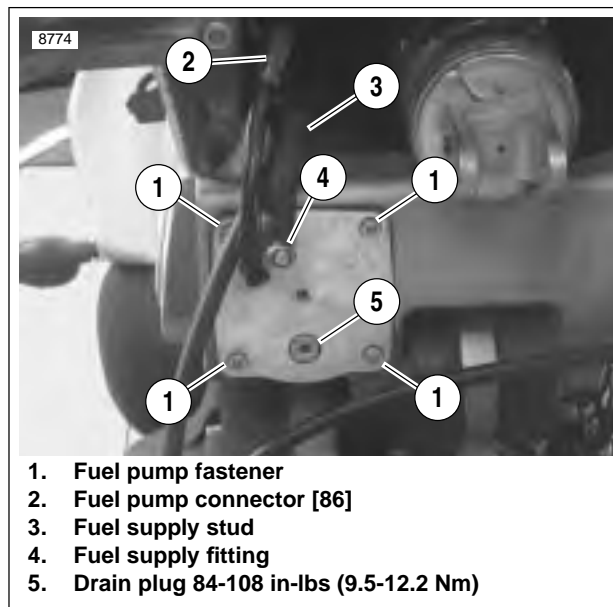
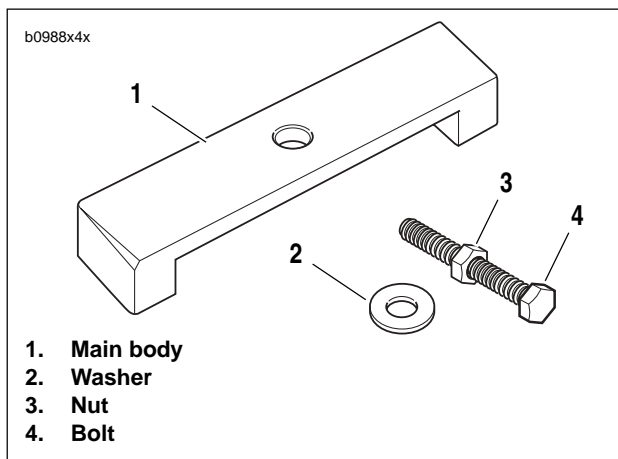
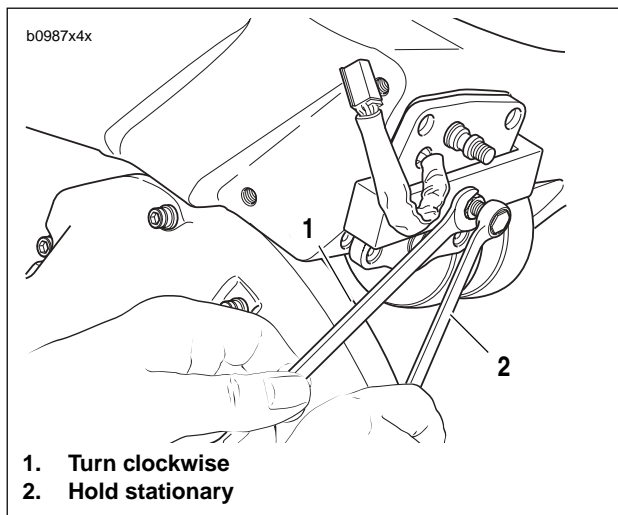

Figure 4-196. Fuel Pump Location
Figure 4-197. Fuel Pump Puller
Figure 4-198. Fuel Pump Removal
- a. See Figure 4-196. Disconnect the 4-place fuel pump connector (2) [86]. Connector is located inside the left rear portion of the fuel tank/frame.
4. See Figure 4-196. Remove fuel line from fuel supply fitting (4).
5. Remove four fuel pump fasteners (1).
6. See Figure 4-197. Assemble fuel pump puller.
- a. Thread nut (3) onto bolt (4).
- b. Slide washer (2) onto bolt.
- c. Insert bolt assembly into hole in main body (1).
7. See Figure 4-198. Place the main body of the fuel pump puller over the fuel pump assembly.